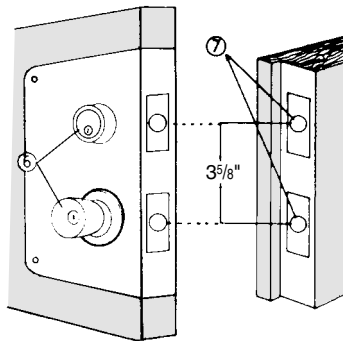

Figure 13.140 Install the locksets and strike plates. (M.A.G. Engineering and Mfg., Inc.)
5. Install both locksets (6) (before installing the mounting screws). Install both striker plates (7) $3\frac{5}{8}$ inches between centers. The strike plate installation should be per the specific instructions for the installed lockset (Fig. 13.140).